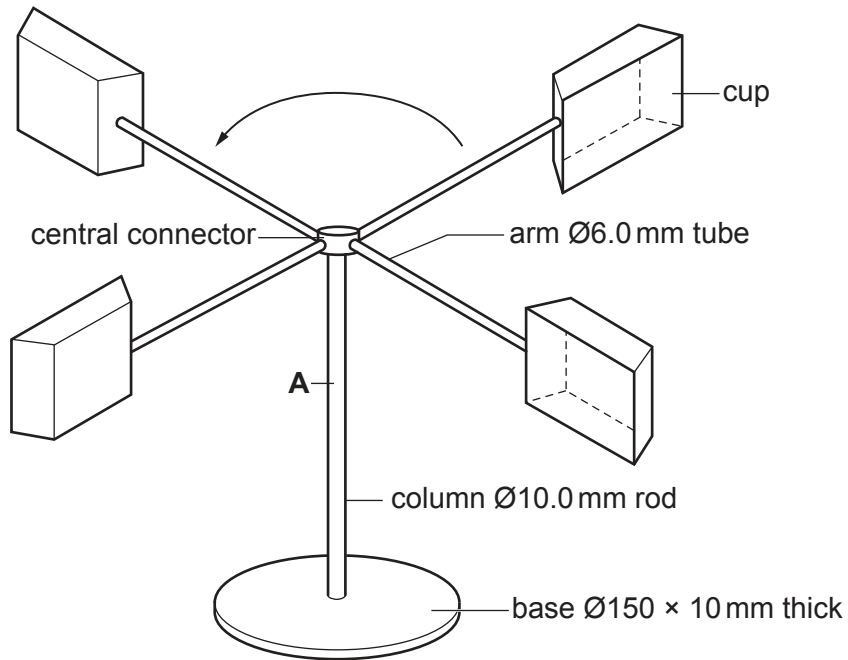

Fig. 13.1
- 13 Fig. 13.1 shows an incomplete design for a wind gauge that could be made in a school workshop. The cups and arms rotate when the wind blows.